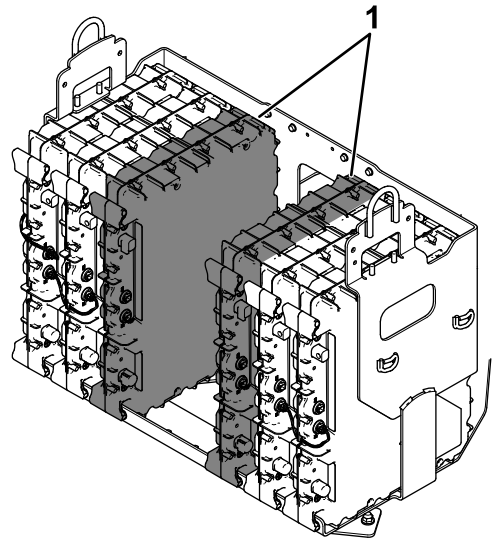

Figure 4
- Figure 4 shows 2 installed batteries (13 total):